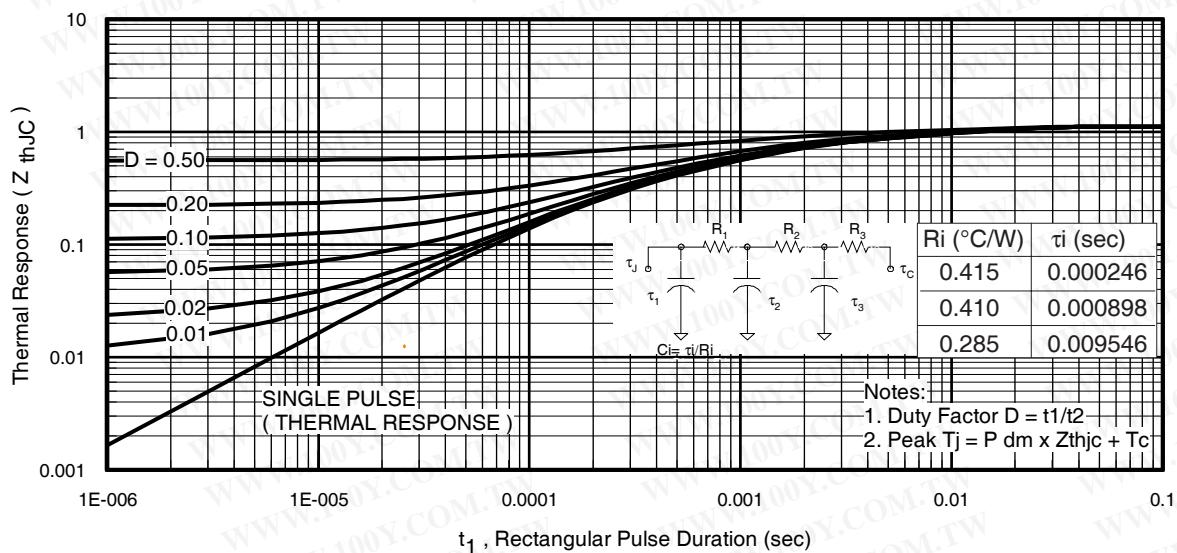
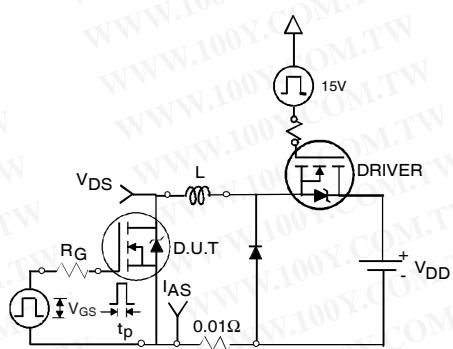

Fig 11. Maximum Effective Transient Thermal Impedance, Junction-to-Case
Fig 12a. Unclamped Inductive Test Circuit
- ① Repetitive rating; pulse width limited by max. junction temperature. (See fig. 11).
- ② Limited by $T_{J\text{max}}$, starting $T_J = 25^\circ\text{C}$, $L = 0.077\text{mH}$, $R_G = 25\Omega$, $I_{AS} = 51\text{A}$, $V_{GS} = 10\text{V}$. Part not recommended for use above this value.
- ③ $I_{SD} \leq 51\text{A}$, $\text{di}/\text{dt} \leq 260\text{A}/\mu\text{s}$, $V_{DD} \leq V_{(\text{BR})\text{DSS}}$, $T_J \leq 175^\circ\text{C}$.
- ④ Pulse width $\leq 1.0\text{ms}$; duty cycle $\leq 2\%$.
- ⑤ $C_{\text{oss eff.}}$ is a fixed capacitance that gives the same charging time as C_{oss} while V_{DS} is rising from 0 to 80% V_{DSS} .
- ⑥ Limited by $T_{J\text{max}}$, see Fig.12a, 12b, 15, 16 for typical repetitive avalanche performance.
- ⑦ This value determined from sample failure population. 100% tested to this value in production.
- ⑧ This is applied to D²Pak, when mounted on 1" square PCB (FR-4 or G-10 Material). For recommended footprint and soldering techniques refer to application note #AN-994.
3. Equation below based on circuit and waveforms shown in Figures 12a, 12b.
Z_{thJC}(D, t_{av}) = Transient thermal resistance, see figure 11)